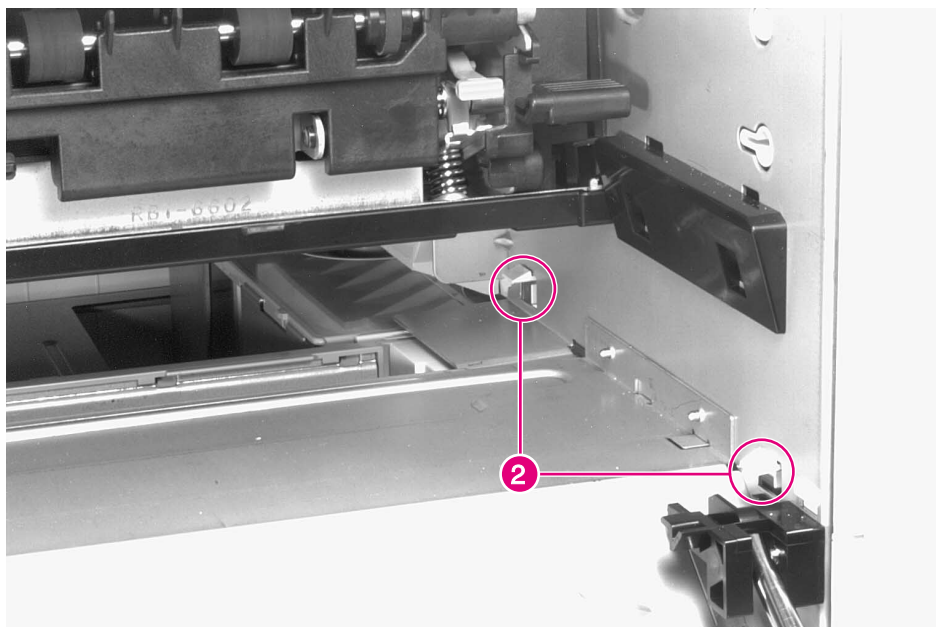

Figure 6-8 **Front Cover (2 of 2)**
- 3 Open the Diverter Access Door and release the two plastic retaining tabs inside the Duplexer cavity (figure 6-8, callout 2).